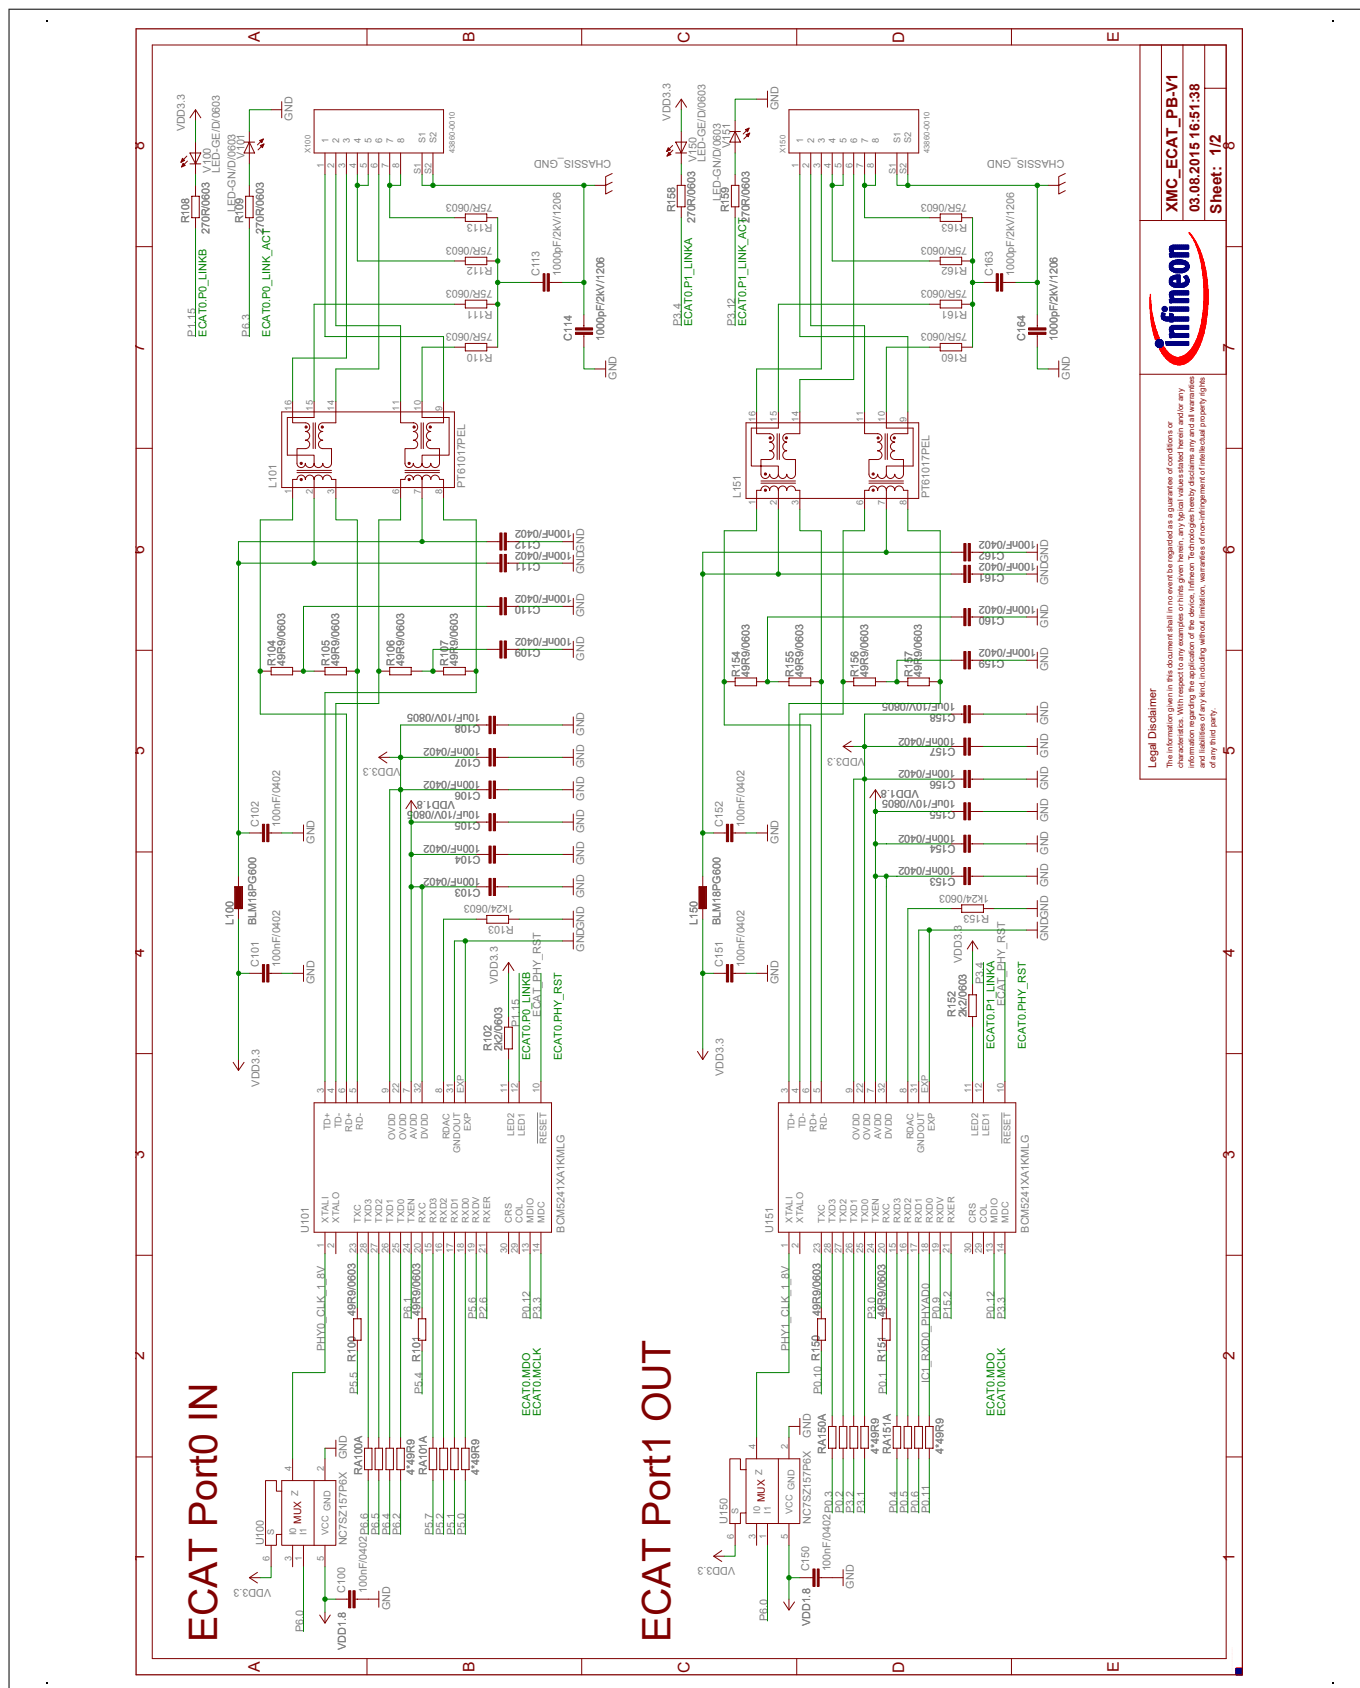

Figure 12 XMC™ EtherCAT Phy Board Schematic: Input and Output Phy
- Figure 12: XMC™ EtherCAT Phy Board Schematic: Input and Output Phy